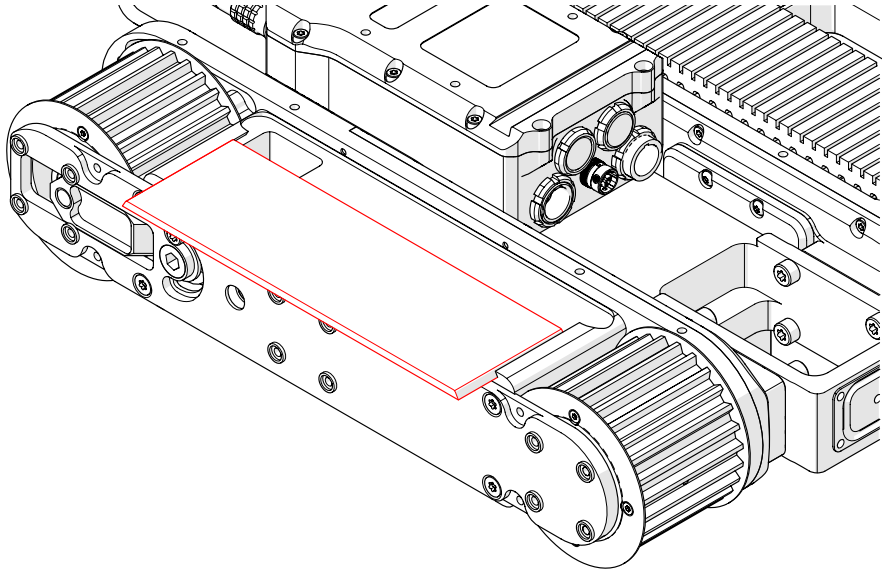

Fig. 60 - Ensure slider plate does not come out
6. Take care to ensure the slider plate does not fall from its groove (*Fig. 60*).